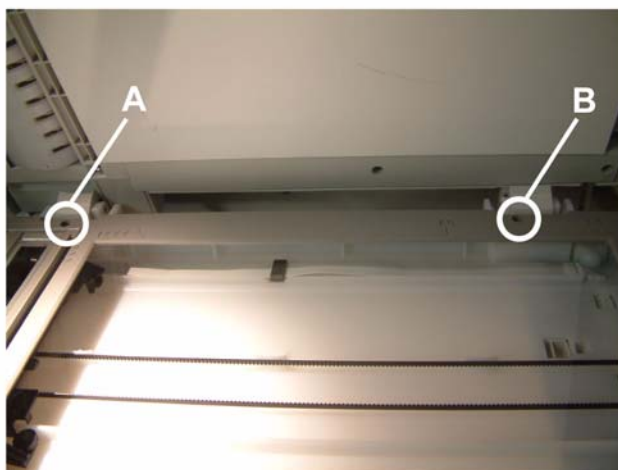

Figure 1
1. Remove the two mounting screws on the frame (**A** and **B**) and turn the cover upside down, Figure 1.